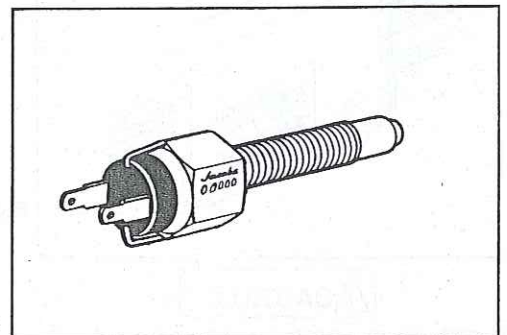

Fig. 39
- 6b. Current style buffer switches include a two diode system for switch protection. The two diode type switch is not polarity sensitive and electrical connections can be made to either terminal. See Fig. 39.